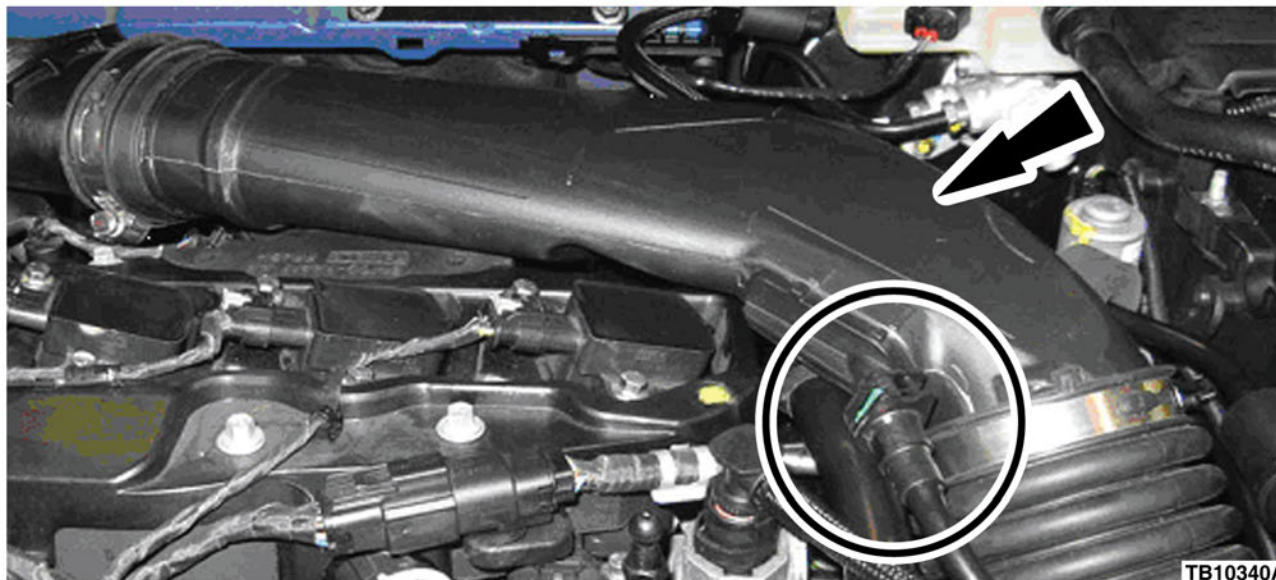

Figure 3 - Article 12-8-23
4. Loosen the two (2) clamps, remove the bolt (2.0L only) and remove the air intake duct center section. (Figure 3)
6. Disconnect evaporative emission vapor purge line from the air intake duct center section. Refer to WSM, Section 310-00. (Figure 3)